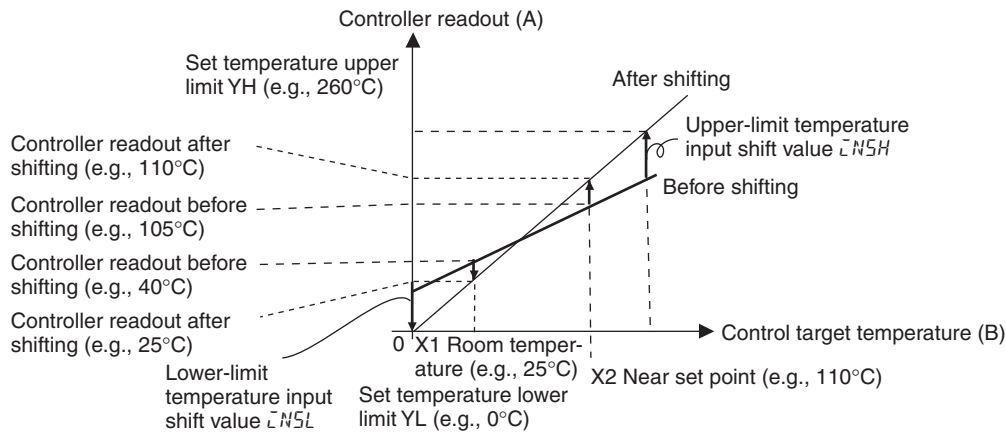

Figure 3 Illustration of 2-Point Shift
1. Shift the Controller readout at two points, near room temperature and near the value at which the temperature of the control target is to be controlled. For this reason, check the thermometer temperature (B) and Controller readout (A) with the thermometer temperature near room temperature and near the set point.
2. Use the following formulas with the readouts checked above and the desired temperature values to calculate the input shift values for the upper-limit and lower-limit temperatures of the measurement range and set the upper-limit and lower-limit temperature input shift values. The shift is illustrated in *Figure 3*.